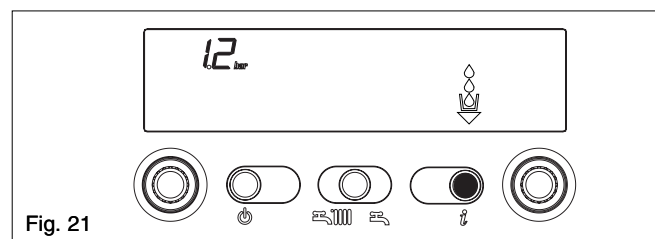

Fig. 21
- Info 2** water pressure (fig. 21)